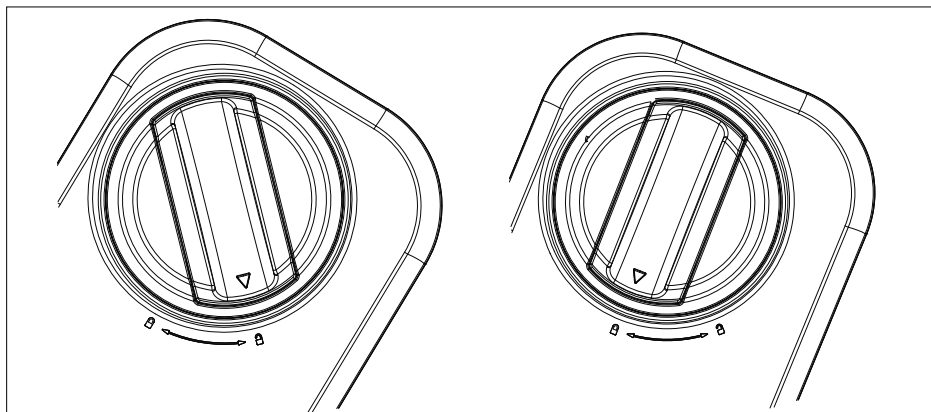

Fig. 8
- ▶ Turn the lid towards the closed lock symbol  until it engages (see Fig. 8).